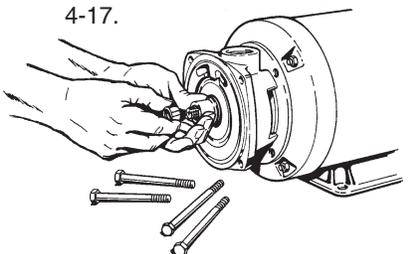

Figure 4-17
j. While maintaining inward pressure on the hub, install the impeller nut. Refer to Figure 4-17.